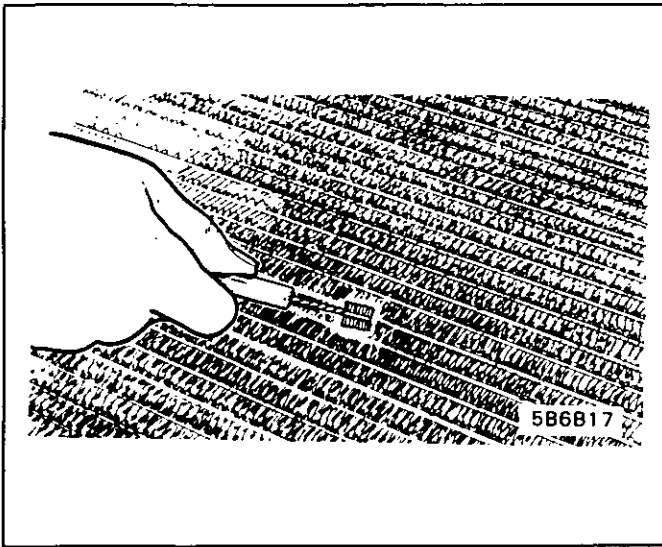

Fig. 30 Cleaning Area With Steel Brush
- Brush the area to be repaired with the small steel brush that is supplied in the kit and blow dust away from repair area. (See Fig. 30).